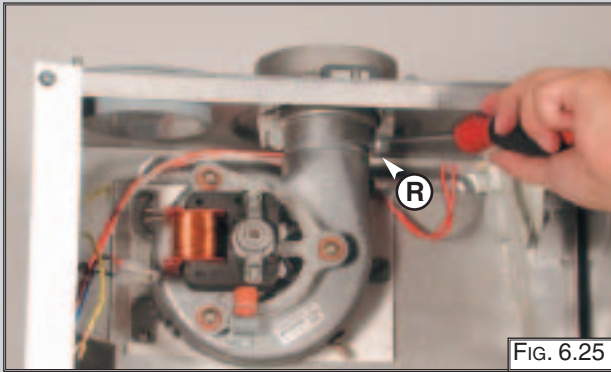

FIG. 6.25
2. Remove screw "R" and remove the fan collar clamp "R" (FIG.6.25);